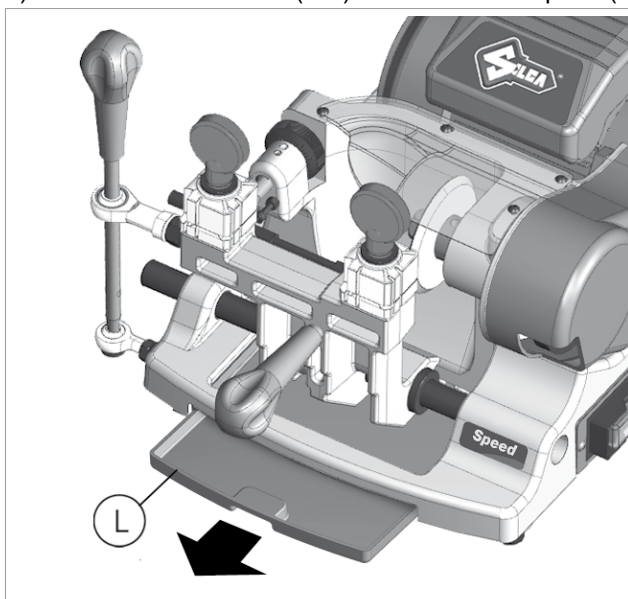

Fig.34
- 2) Remove the swarf tray (L) (Fig.34).